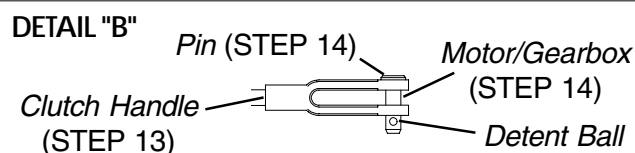

FIGURE 28 - REPLACING MOTOR/GEARBOX
REPLACING MOTOR/GEARBOX (FIGURE 28)
4. Perform one (1) of the following:
10. Remove the six (6) socket screws that secure the existing motor/gearbox to the wheelchair frame.
11. Position the new motor/gearbox on the wheelchair frame at the position noted in STEP 7 as shown in **FIGURE 28**.
12. Use Loctite 242 and tighten the motor/gearbox to the wheelchair frame securely with the six (6) socket screws. Torque to 60-inch pounds.
14. Insert the pin through clutch handle and new motor/gearbox as shown in DETAIL "B" in FIGURE 28.